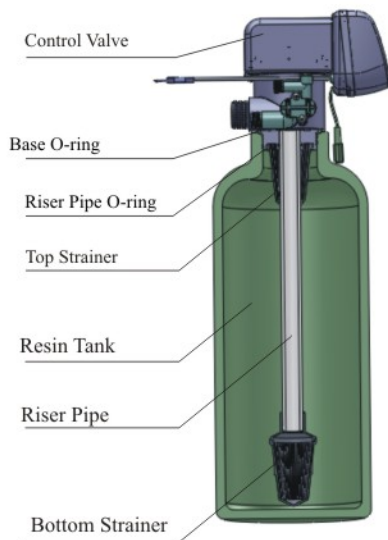

Figure 1-1
- ①The filter or softener should be located close to drain.
- ②Ensure the device is installed in enough space for operating and maintenance.
- ③Brine tank need to be close to softener.
- ④The device should be kept off the heater, and not be exposed outdoor. Sunshine or rain will cause damage to the system.
- ⑤Please avoid to install the system in the Acid/Alkaline, Magnetic or strong vibration circumstance, because above factors will cause the system disorder.
- ⑥Do not install the filter or softener, drain pipeline in circumstance which temperature may drop below 5°C, or above 50°C.
- ⑦The system should be installed in a place where there will be the minimum loss in case of water leakage.
①Install control valve
- a. As the Figure 1-1 shows, select the riser pipe with 26.7mm OD, glue the riser pipe to the bottom strainer and put it into the mineral tank, cut off the exceeding tube out of tank top opening. Plug the riser tube in case of mineral entering.